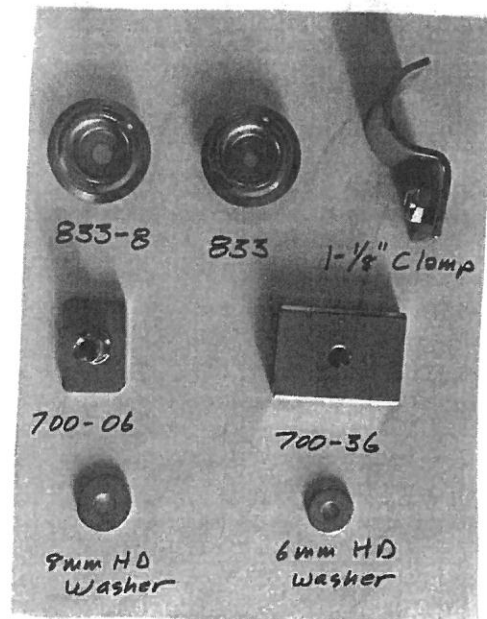

Fig. 1
1. To start it's best to familiarize yourself with the mounting hardware and individual plates using the hardware packing list and hardware placement guide. Also fig. 1 will help in identifying the specialty hardware items.